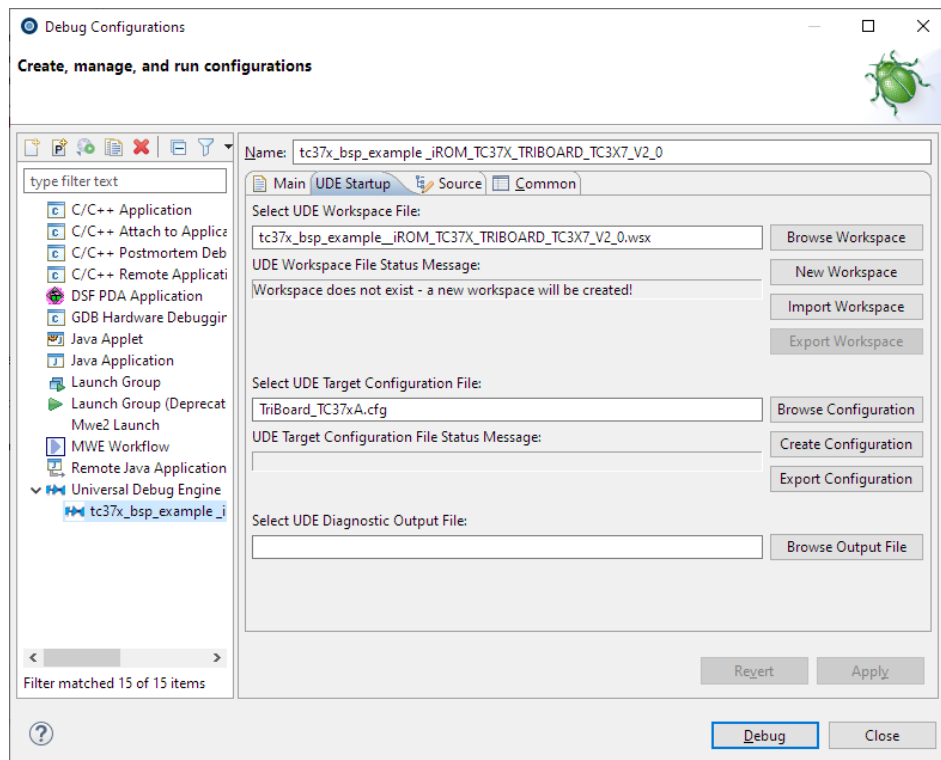

Figure 37 Create new debug launch configuration for Universal Debug Engine
4. A new debug configuration **tc37x\_bsp\_example\_iRom** is created. All input fields are pre-filled with appropriate values (Figure 37).